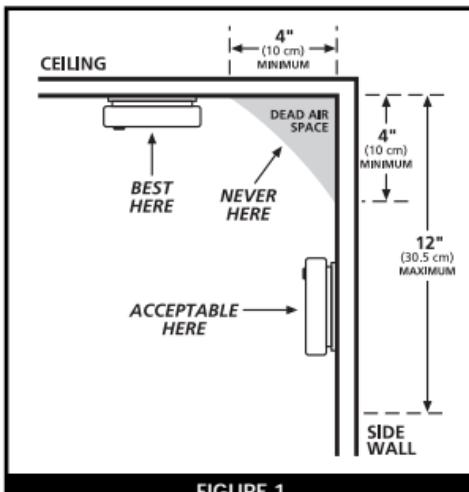

FIGURE 1
- When mounting an alarm on the ceiling, locate it at a minimum of 4" (10cm) from the side wall (see Figure 1).
- When mounting the alarm on the wall, use an inside wall with the top edge of the alarm at a minimum of 4" (10cm) and a maximum of 12" (30.5cm) below the ceiling. (see Figure 1).
Modern mobile homes have been designed and built to be energy efficient. Install smoke alarms as recommended above (refer to RECOMMENDED LOCATIONS and Figures 1 and 2).
In older mobile homes that are not well insulated compared to present standards, extreme heat or cold can be transferred from the outside to the inside through poorly insulated walls and roof. This may create a thermal barrier which can prevent the smoke from reaching an alarm mounted on the ceiling. In such units, install the smoke alarm on an inside wall with the top edge of the alarm at a minimum of 4" (10cm) and a maximum of 12" (30.5cm) below the ceiling (see Figure 1).